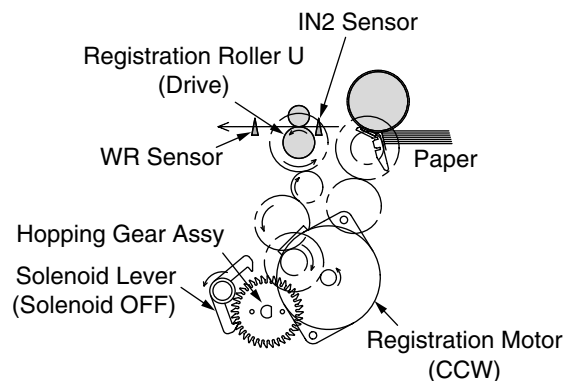

Figure 2-4
3. As indicated in Figure 2-4, the registration motor rotates (CCW), and transports the paper with registration roller U. (The registration roller U feeds the paper when the registration motor rotates in the CCW direction.)